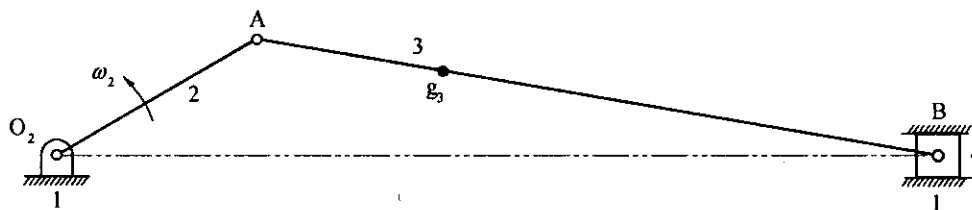

Fig. 3.43
12. The slider-crank of an internal combustion engine shown in fig. 3.43 includes a crank of 50.8 mm length and a connecting rod of 203 mm length. The crank speed of the engine is constant at 314 rad/s. Determine the acceleration of the mass center $A g_3$ of the connecting rod when the crank angle is 30° . The mass centre g_3 is located 50.8 mm from the crank pin at A.